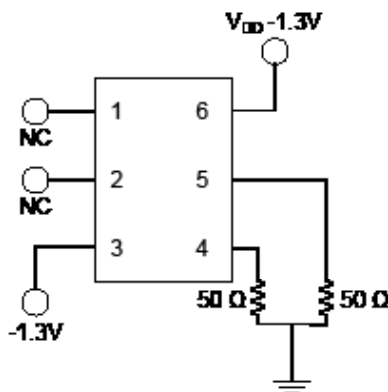
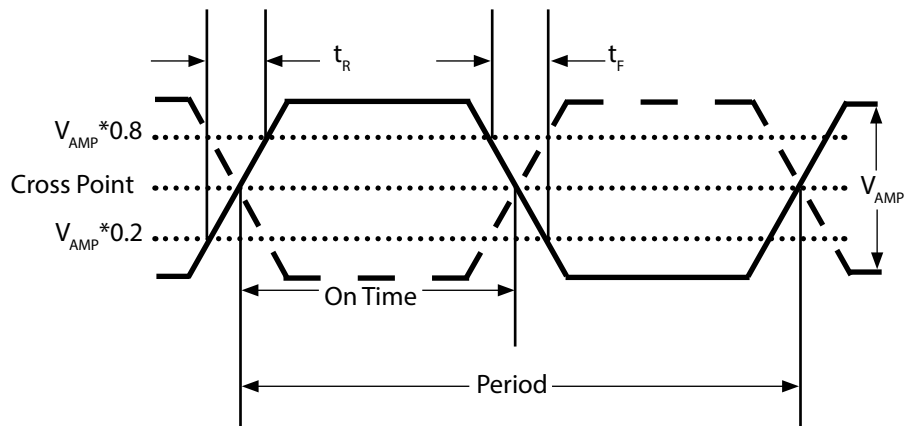
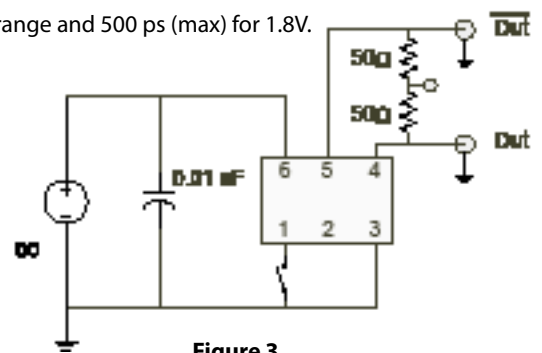

Figure 1.
Figure 2.
Figure 3.
- Figure 1 defines the test circuit and Figure 2 defines these parameters.
3. Figure 2 defines these parameters and Figure 3 defines the test circuit.